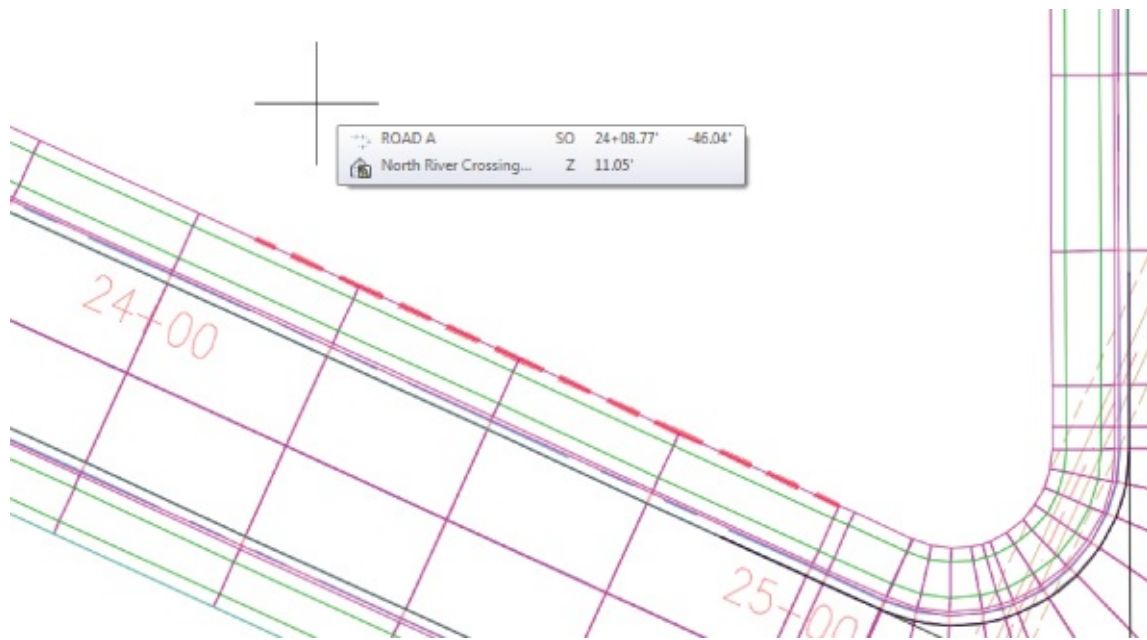

Figure 9.48 Defining an interactive boundary
28. Drag the cursor to the left along the edge of the corridor until you see a red, dashed line representing your interactive boundary beginning to trace over the Edge feature line, as shown in Figure 9.48.